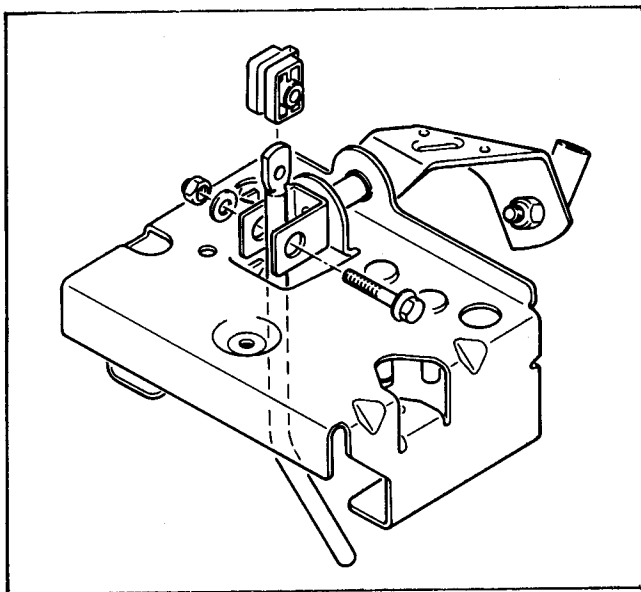

Figure 34
4. On 1989 and newer units, insert the yoke bushing into the yoke. Insert the shift lever into the shift lever yoke, making sure that the shift lever bends forward. Secure with the flat washer and nylon locknut. Make sure the shift lever fits into the recesses in the yoke bushings and that the connectors between the yoke bushings face the rear of the machine. (If installed with the connectors forward, binding will result when the shift lever is moved forward and backward.) See Figure 34.